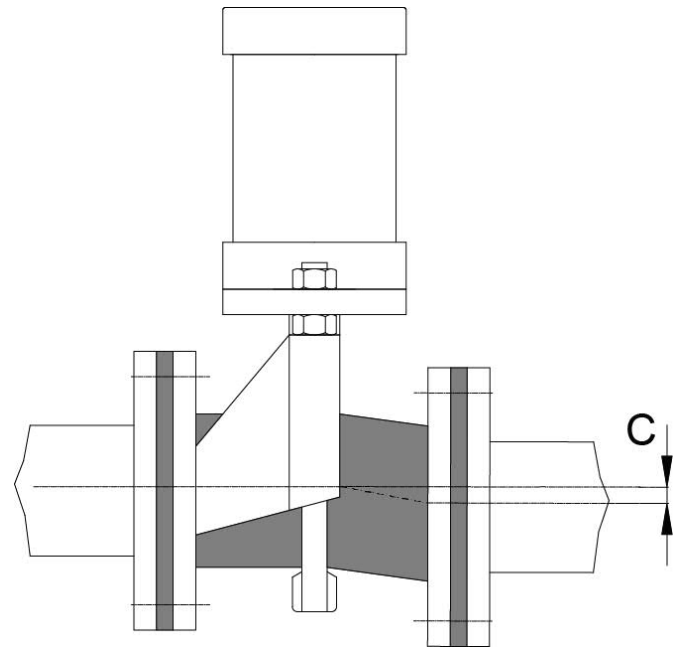

Figure 12.
Deviation in the centre line of the pipe (C), (Figure 12):